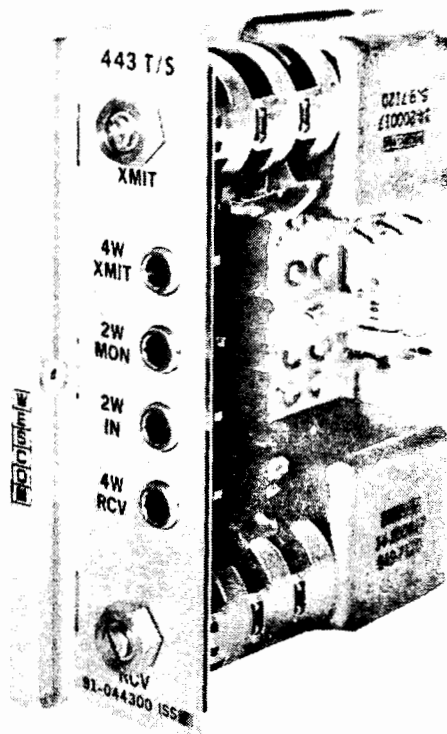

Figure 1. 443 Terminating Set
1.02 The 443 (Figure 1) is a plug-in, printed-circuit module used to provide two-wire termination of a four-wire facility.